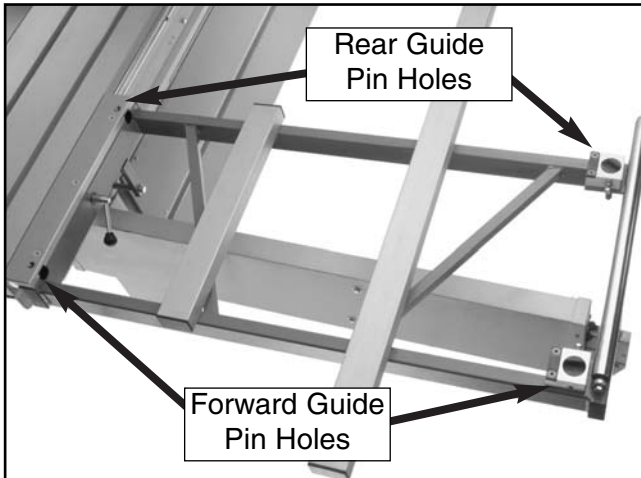

Figure 72. Guide pin holes used when mounting the crosscut fence for full size panel crosscutting.
2. Install the crosscut fence in the forward guide pin holes shown in **Figure 72** and lock it in place. Note—*First, drop the crosscut fence into the outside edge guide pin hole, then drop the other end of the crosscut fence into the guide pine hole closest to the sliding table.*
2. Install the crosscut fence in the rear guide pin holes shown in **Figure 72** and lock it in place. Note—*First, drop the crosscut fence into the outside edge guide pin hole, then drop the other end into the guide pin hole closest to the sliding table.*